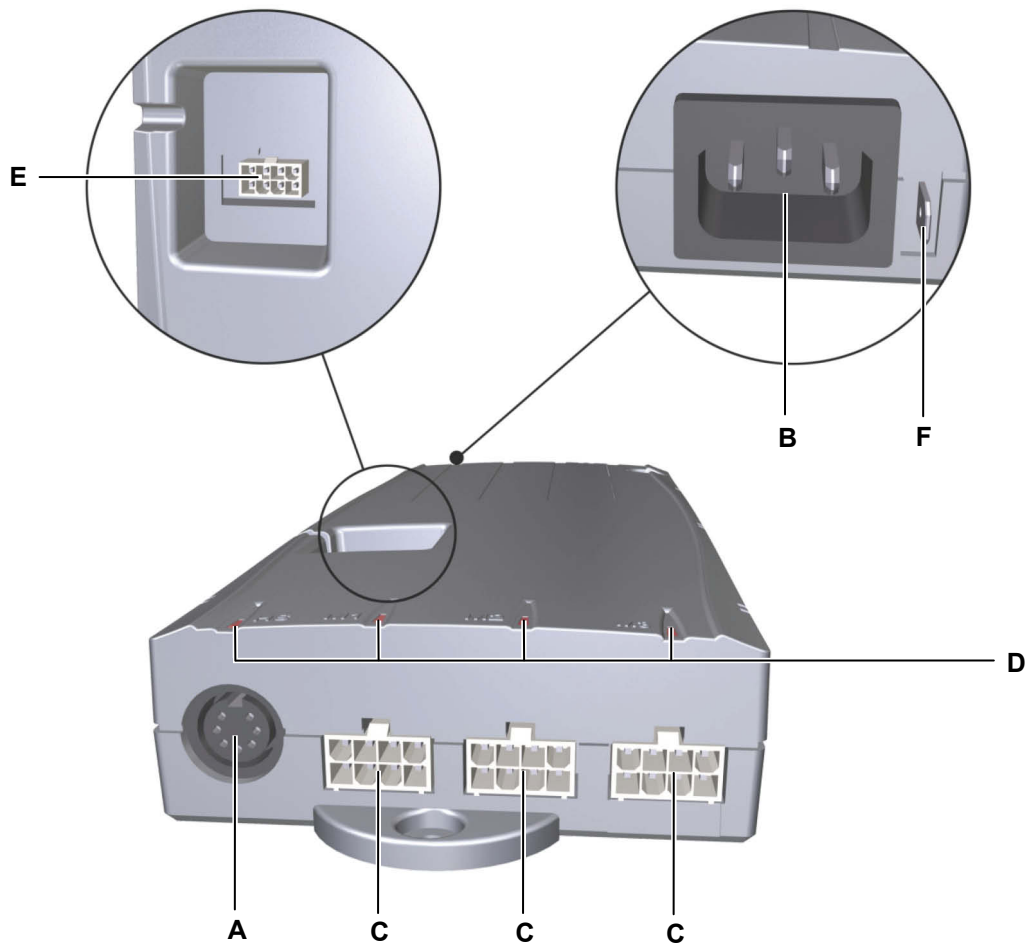

Figure 39 Connection ports on the COMPACT control unit
- 7 Connect the processor's cable to the COMPACT controller (see Figure 39).